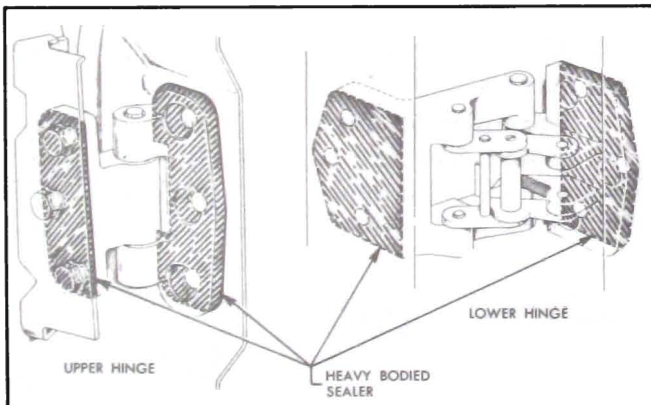

Figure 13-53—Sealing Rear Door Hinges
2. Apply a coat of heavy-bodied sealer to attaching surfaces of hinge straps or to corresponding surfaces of door or body, as indicated in Figure 13-53. It is important to obtain complete coverage with sealer to obtain proper sealing and anti-squeak effects. In addition, lubricate frictional surface of door hold open assist assembly as outlined in Lubrication Section.